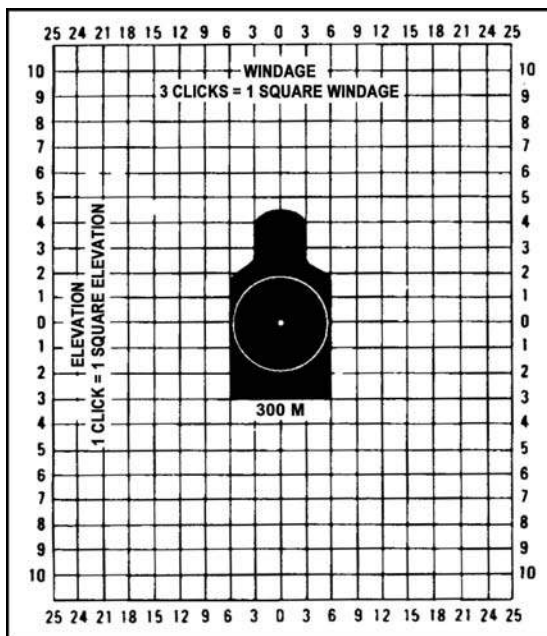

Figure 071-311-2030-3. 300-meter zero target
- b. Align the aiming point (figure 071-311-2030-3).